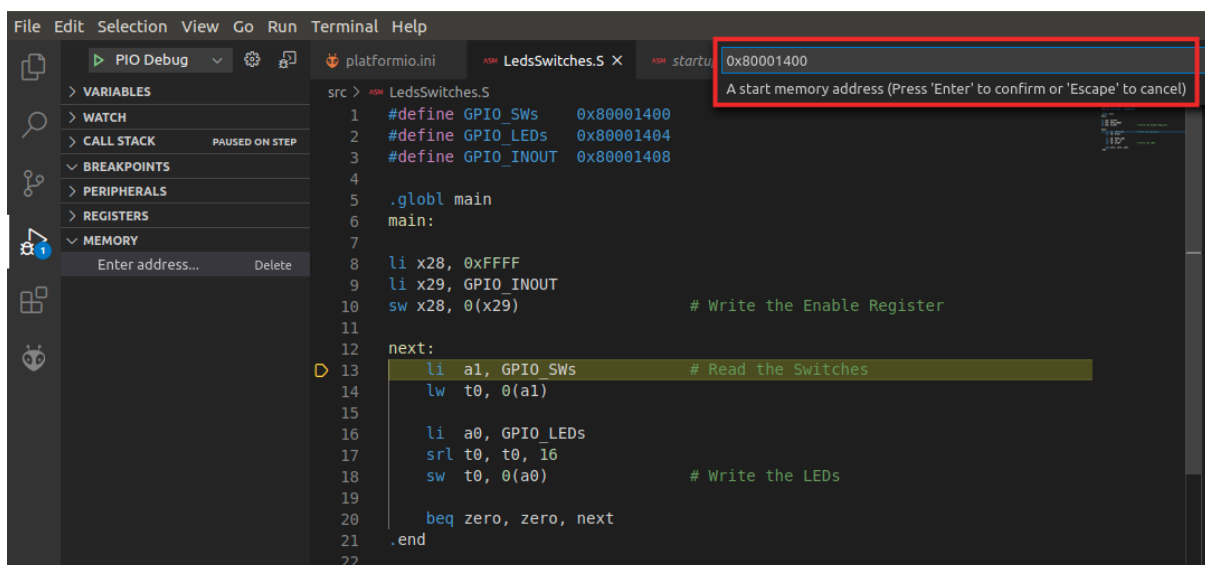

Figure 56. Initial memory address to show
- b. The initial memory address will be requested (see Figure 56). Insert the initial address where the Switches are mapped, in our case 0x80001400.